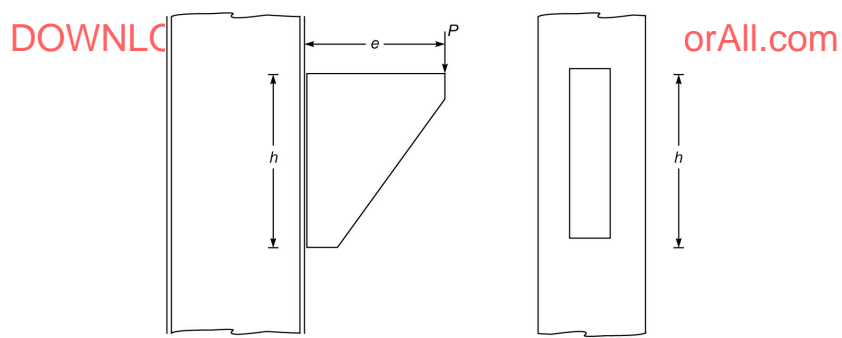

Fig. Q. 74
74. In the welded bracket connection shown in Fig. Q. 74 direct shear stress in weld is
75. In the bracket shown in Fig. Q.74 maximum bending stress in the weld is